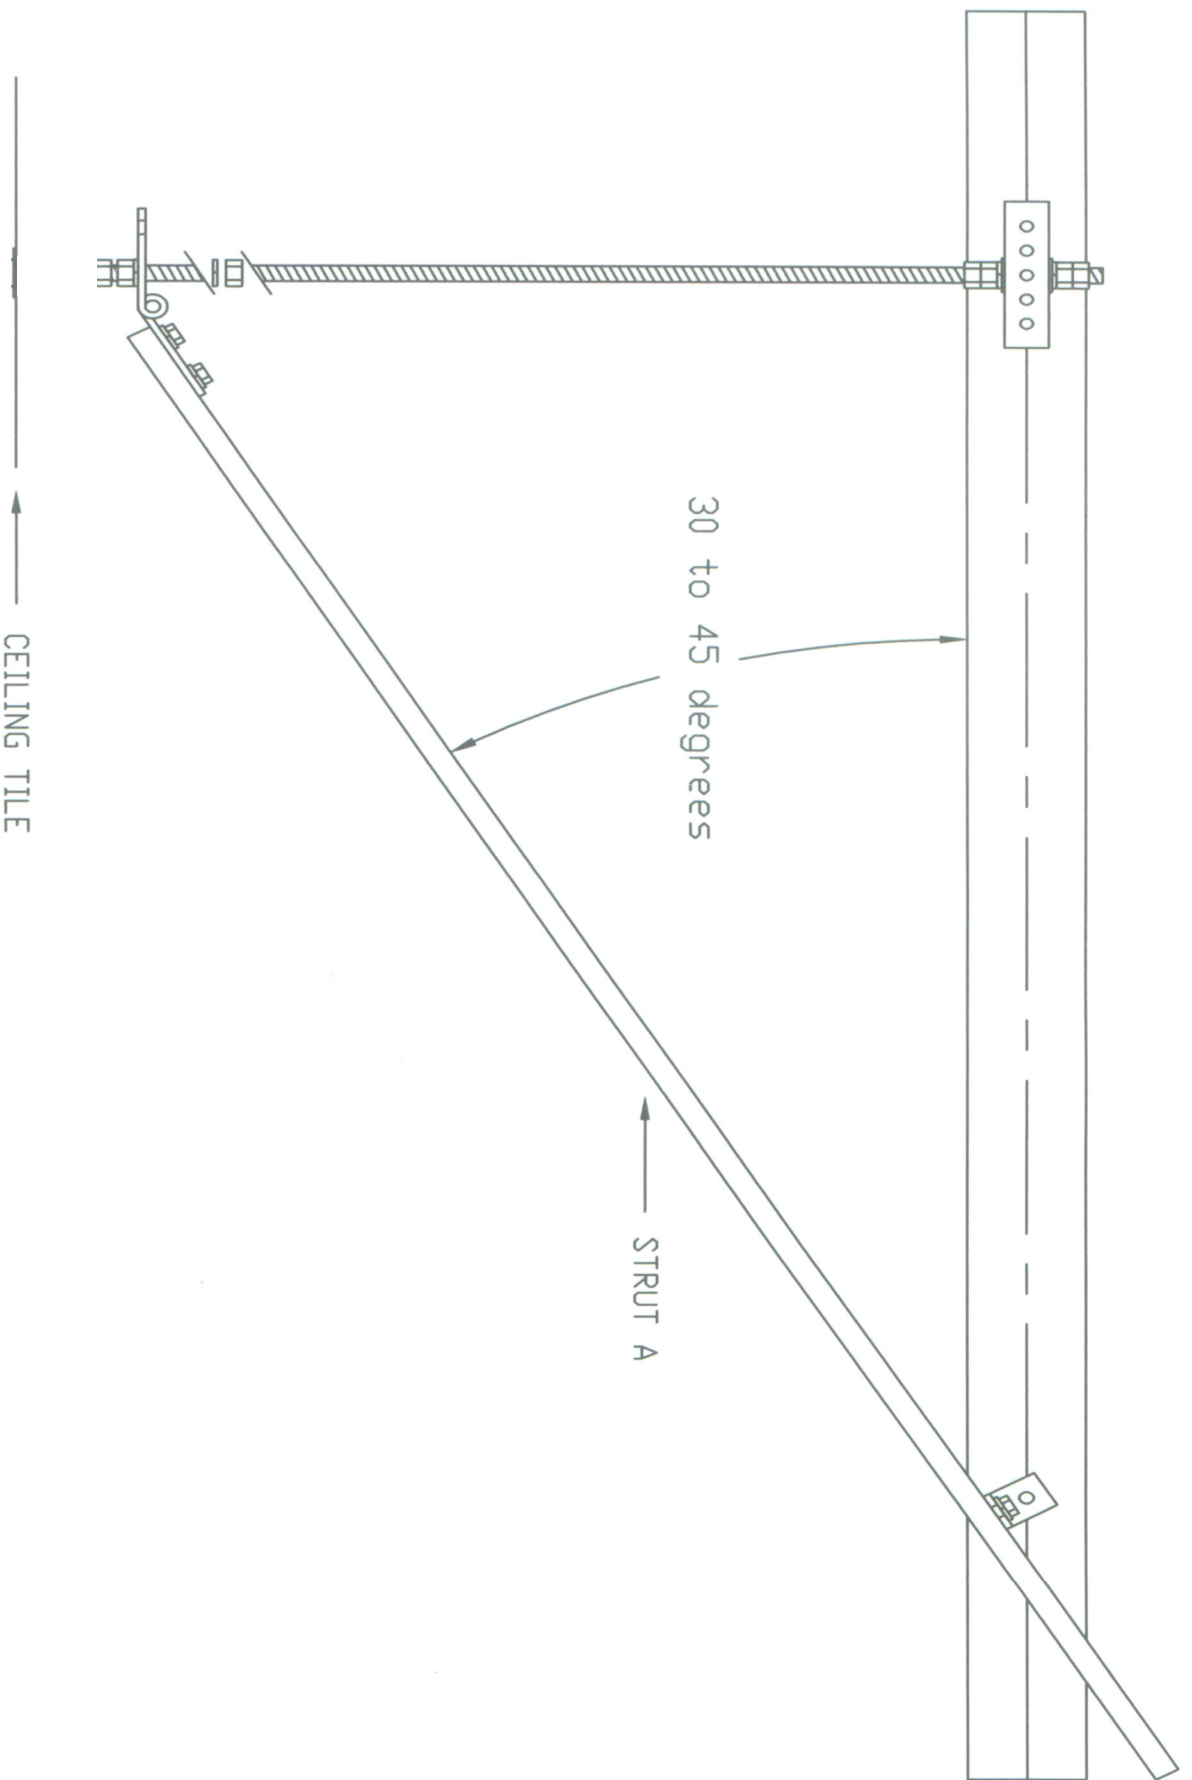

Figure 2
- Position the tube against the joist where you want the suspension point *making sure that it is level and centered on the joist* (see fig. 2 and/or page 10 lower right corner image). Mark the outside holes on each end of the tube on the joist. Remove the tube and drill a 3/8" hole through the joist at each mark. Put a 3/8" flat washer on each of the two 3/8" x 4" bolts. Put the bolts through the holes in the tube then through the drilled holes pushing the tube against the joist.